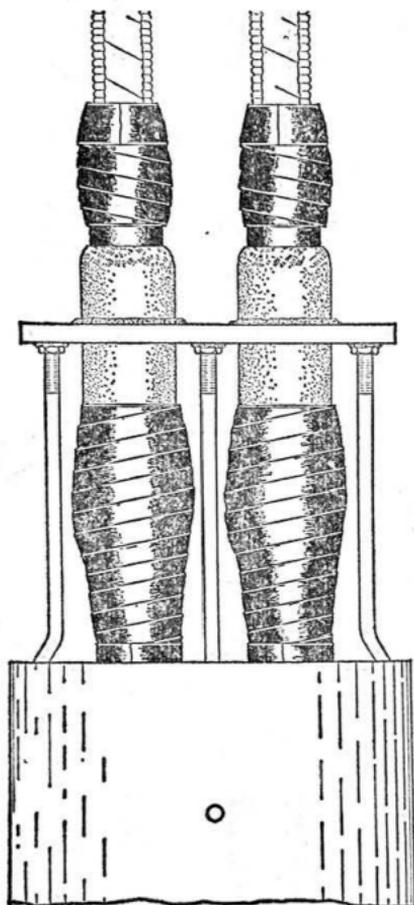

Fig. 6
4.02 Position the cables in the disc and center it on top of the rods. Turn the three tinned nuts up till they are flush with the top of each rod and in contact with the bottom of the disc. Using a torch, solder the tinned nuts to the underside of the disc as shown in Fig. 6.